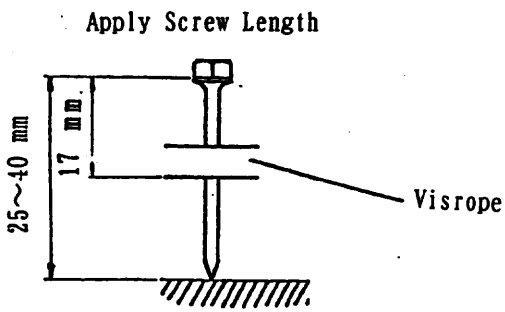

Fig. 2
- (f) Visrope guide :- This guide restricts the movement of the VISROPE, ensuring that the screw and bit are always aligned. Collated screws, as shown in figure 2, have plastic gauges of 17mm (0.67") from the base of the flange to the base of the VISROPE.